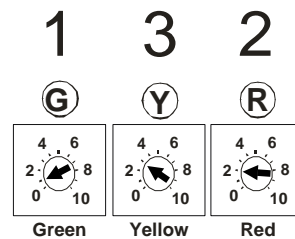

FIGURE 6
8. Remove the door from the Fi2000 module to expose the LED's. **NOTE:** The Fi2000 base pot settings come preset from the factory for the Raider, shown in Figure 6. Verify the wire connections by, (1), turning the ignition on while watching the 3 LED's. They will all light up for a few seconds, and then go off. This is correct. If there are no lights visible, make sure the side stand is up, bike is in neutral, clutch is in and handlebar engine switch is set to run. If there are still no lights visible, re-check that all connectors are fully engaged and the ground wire is connected correctly. (2), after achieving a steady light from all three LED's, start the motorcycle; the green light should now be the only LED on. If all three LED's are still on after start up verify the injector connectors are correctly attached. Reattach the access door when finished and install the remaining components. **NOTE:** Make sure the ignition is turned off before changing any connections.